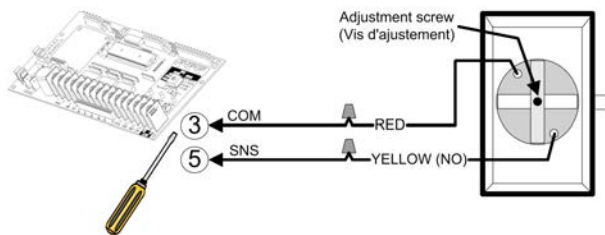
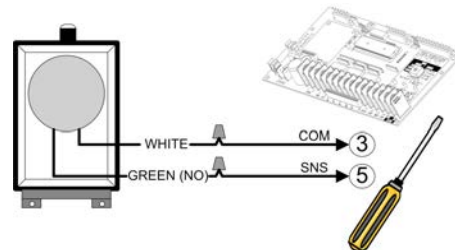

Figure 21 - AIRSWITCH 001 / 007
Figure 22 - AIRSWITCH 009
3. Use a coil cord or take-up reel to connect the air switch to the operator terminals. Install electric wires according to Figure 21 or Figure 22.